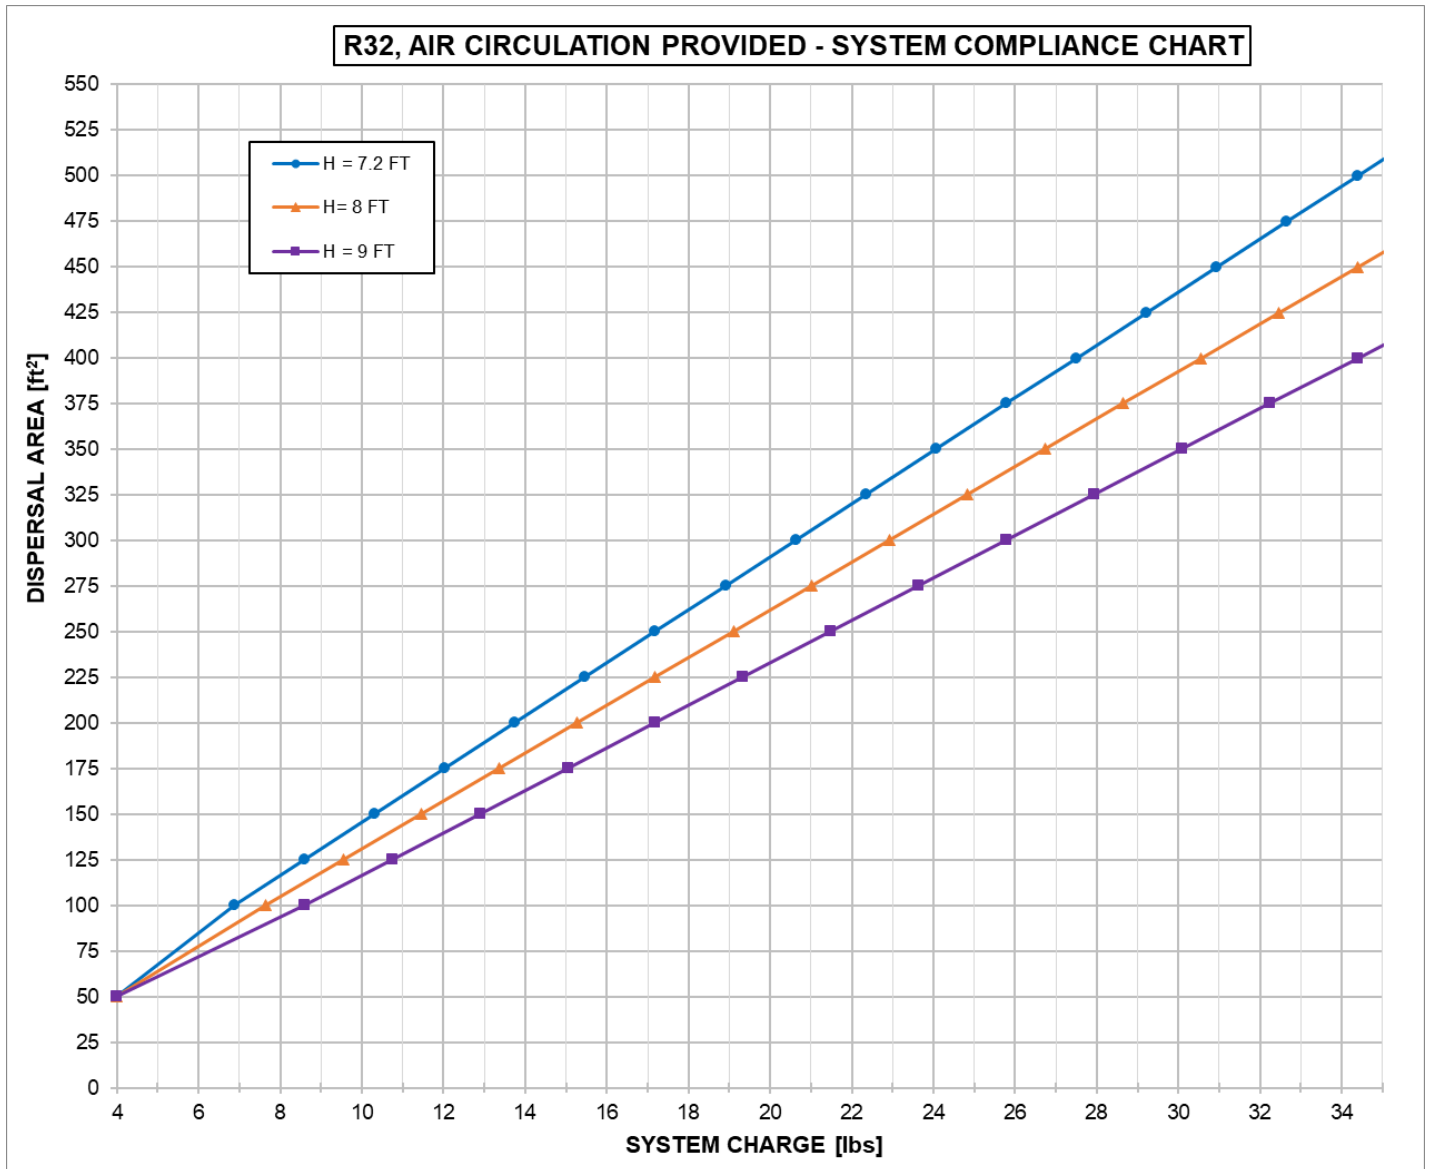

Figure 3. Refrigerant = R32, Without Air Circulation – System Charge Compliance Chart
- Figure 3: Refrigerant = R32, Without Air Circulation – System Charge Compliance Chart